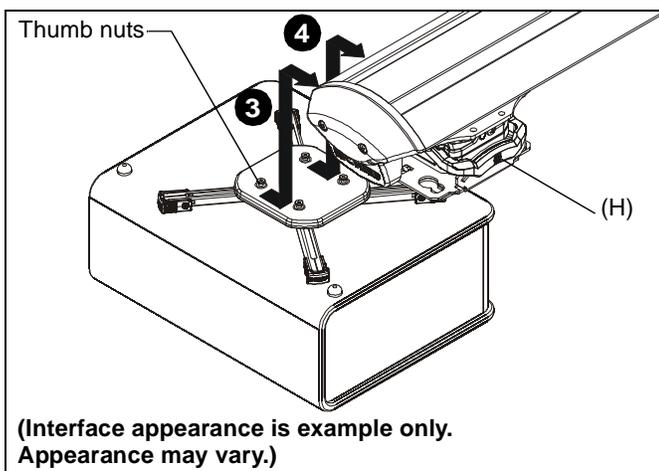

Figure 18
1. Secure interface bracket (G) to top of InFocus projector (not included) using hardware and instructions included with the interface bracket.
2. Orient projector with interface bracket as shown. (See Figure 18)
4. Slide projector with interface bracket onto mounting slots in projector mount (H) until screws are seated against the back of mounting slots. (See Figure 18)